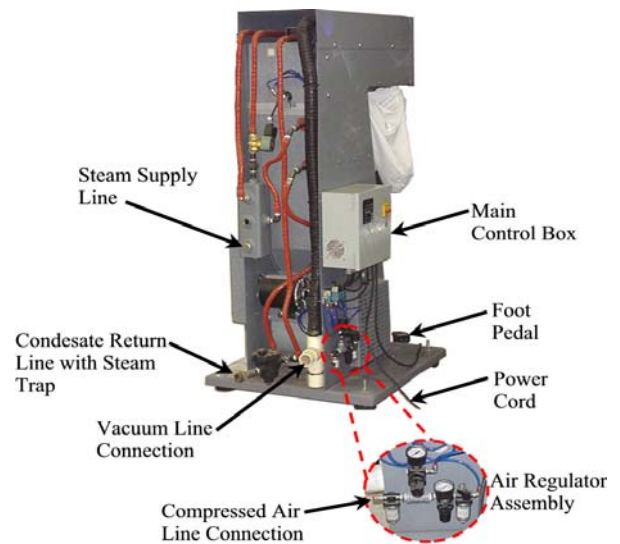

Figure 1 –SIDE/REAR VIEW
2. Locate equipment on a flat, level surface. Equipment is provided with four (4) corner level and height adjustment foot pads, which can raise or lower the unit 3 inches for operator comfort.
3. Connect steam plumbing to back side of the equipment (Reference Figure 1). The upper, copper piping connection is the steam supply line. The lower, copper piping connection is the condensate return line. The unit is shipped with a steam trap installed on the condensate return line. (Refer to standard steam piping diagram in the “Maintenance” section.) Steam consumption is 2.5 BHP of 80 psi steam (86 lbs-condensate/hr).
4. Connect compressed air line plumbing to air regulator assembly. The air regulator connection is plumbed to accept 1/4” plastic tube. Compressed air consumption is 30 psi at 1 cfm. Refer to Figure 1 for location of air regulator assembly.
6. Connect vacuum line to customer supplied vacuum system. Refer to Figure 1 for location of vacuum line connection on equipment.